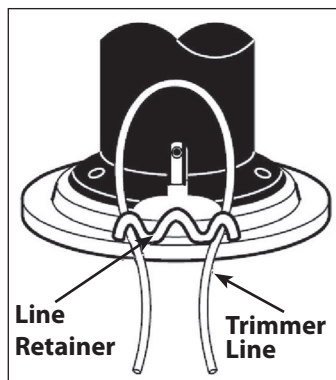

Figure 12: Threading the new trimmer line.
3. First, thread the ends of the new trimmer line through the outside loops. **SEE FIGURE 12.**